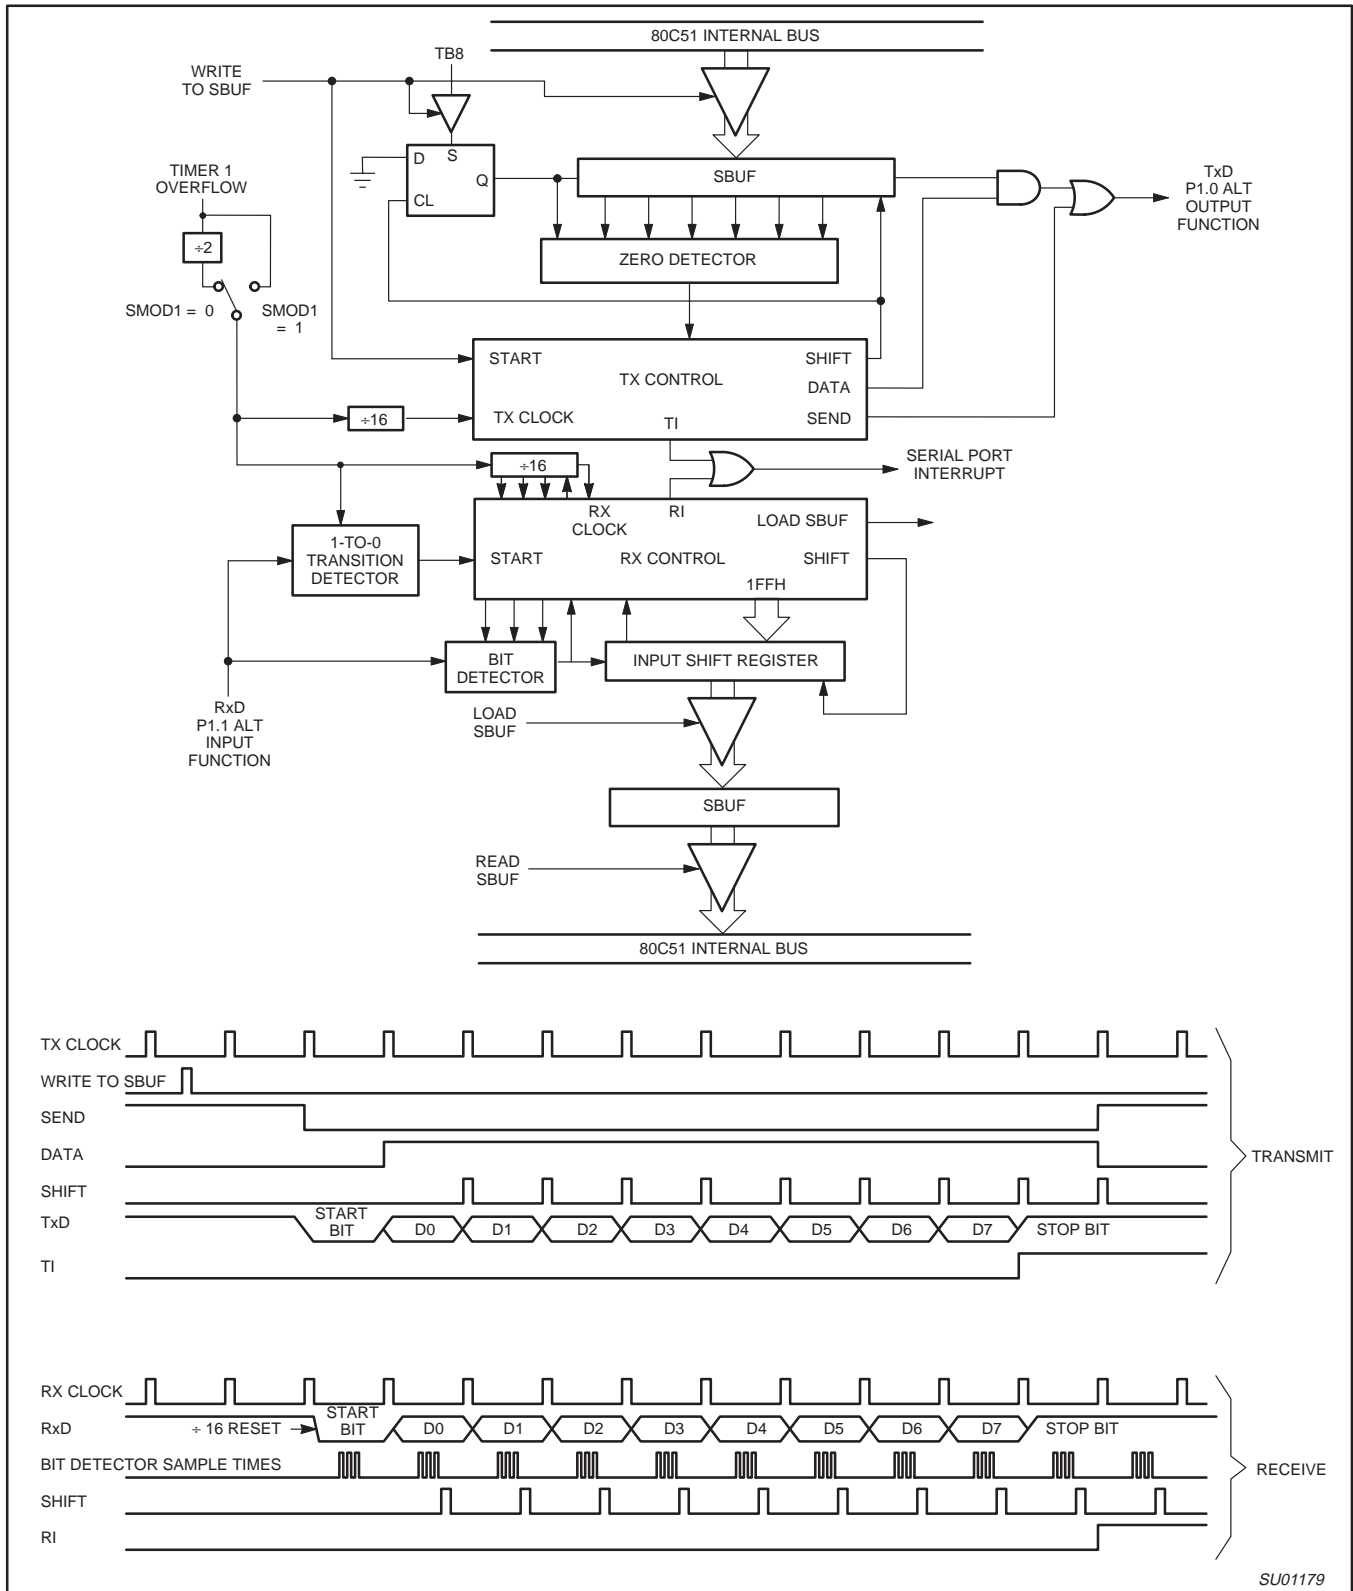

Figure 32. Serial Port Mode 1
Ten bits are transmitted (through TxD), or received (through RxD): a start bit (0), 8 data bits (LSB first), and a stop bit (1). On receive, the stop bit goes into RB8 in SCON. In the 87LPC767 the baud rate is determined by the Timer 1 overflow rate. Figure 32 shows a simplified functional diagram of the serial port in Mode 1, and associated timings for transmit receive.